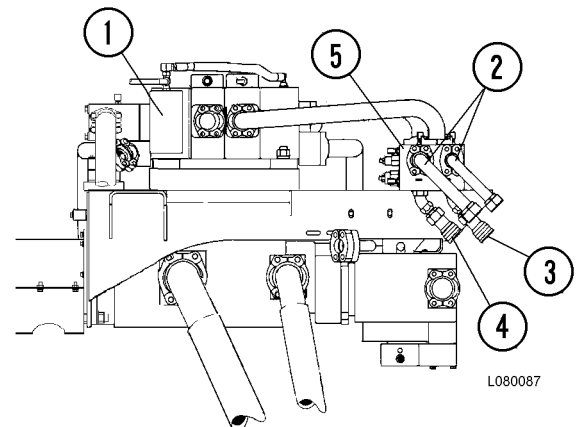

FIGURE 30-6. PUMP MODULE, HOSE HOOKUP
Quick disconnect fittings (3 & 4, Figure 30-6) are provided on the overcenter valve to allow operation of the hoist circuit for temporary truck operation if the hoist pump, hoist valve or other hoist system component is not operational. This will allow maintenance personnel to raise the truck body to dump the load before moving the disabled truck.
In the example, Figure 30-6 illustrates a typical hookup from the good truck. The disabled truck may be another Model 860E, or a different Komatsu electric drive truck model.
1. With the good truck parked as close as possible to the disabled truck, attach a hose from the **power up** quick disconnect (4, Figure 30-6) to the **power down** circuit of the disabled truck. The hose must be rated to withstand 17 000 kPa (2,500 psi) or greater pressure.
2. Connect another hose from the **power down** quick disconnect (3) to the **power up** circuit of the disabled truck.
*NOTE: If both trucks are the same model, the hoses will be installed at the quick disconnects shown in Figure 30-6 and **will be crossed** when connected.*